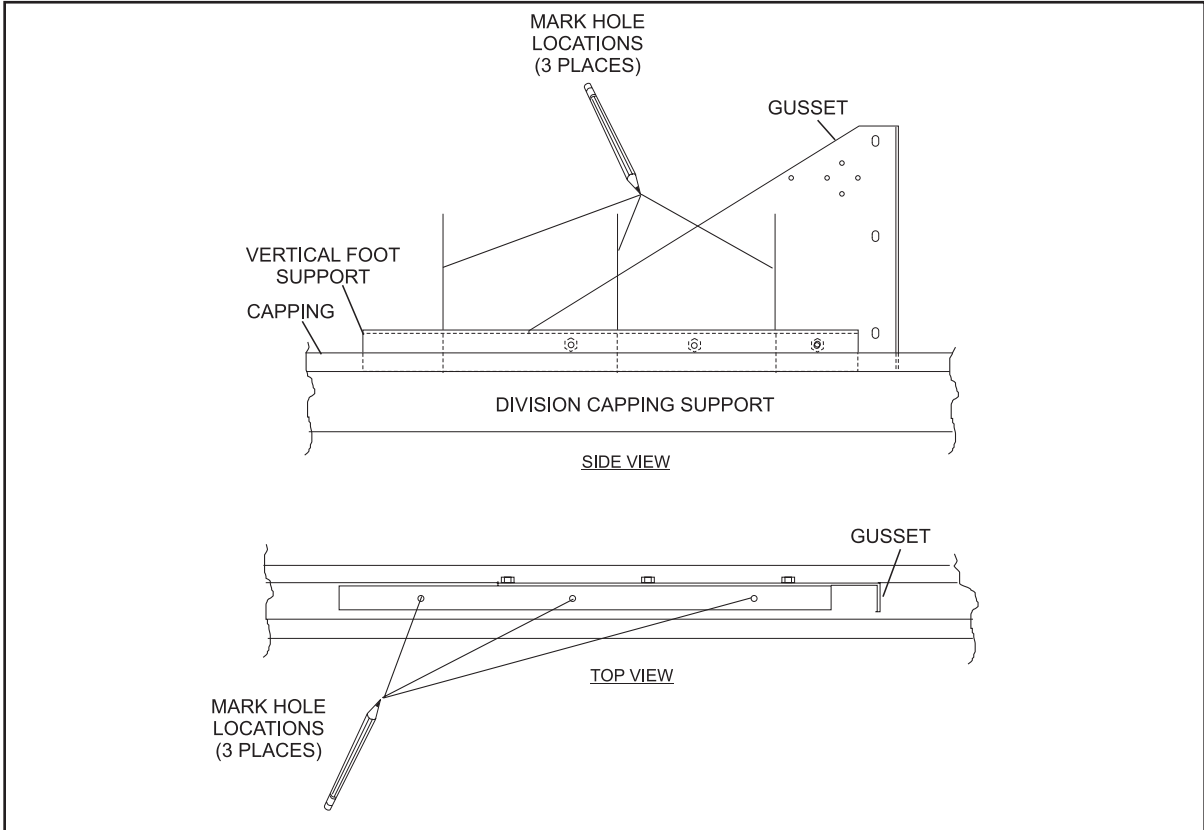

Figure 4
3. Use gusset assembly as a template to mark hole locations on the capping. Refer to *Figure 4*.